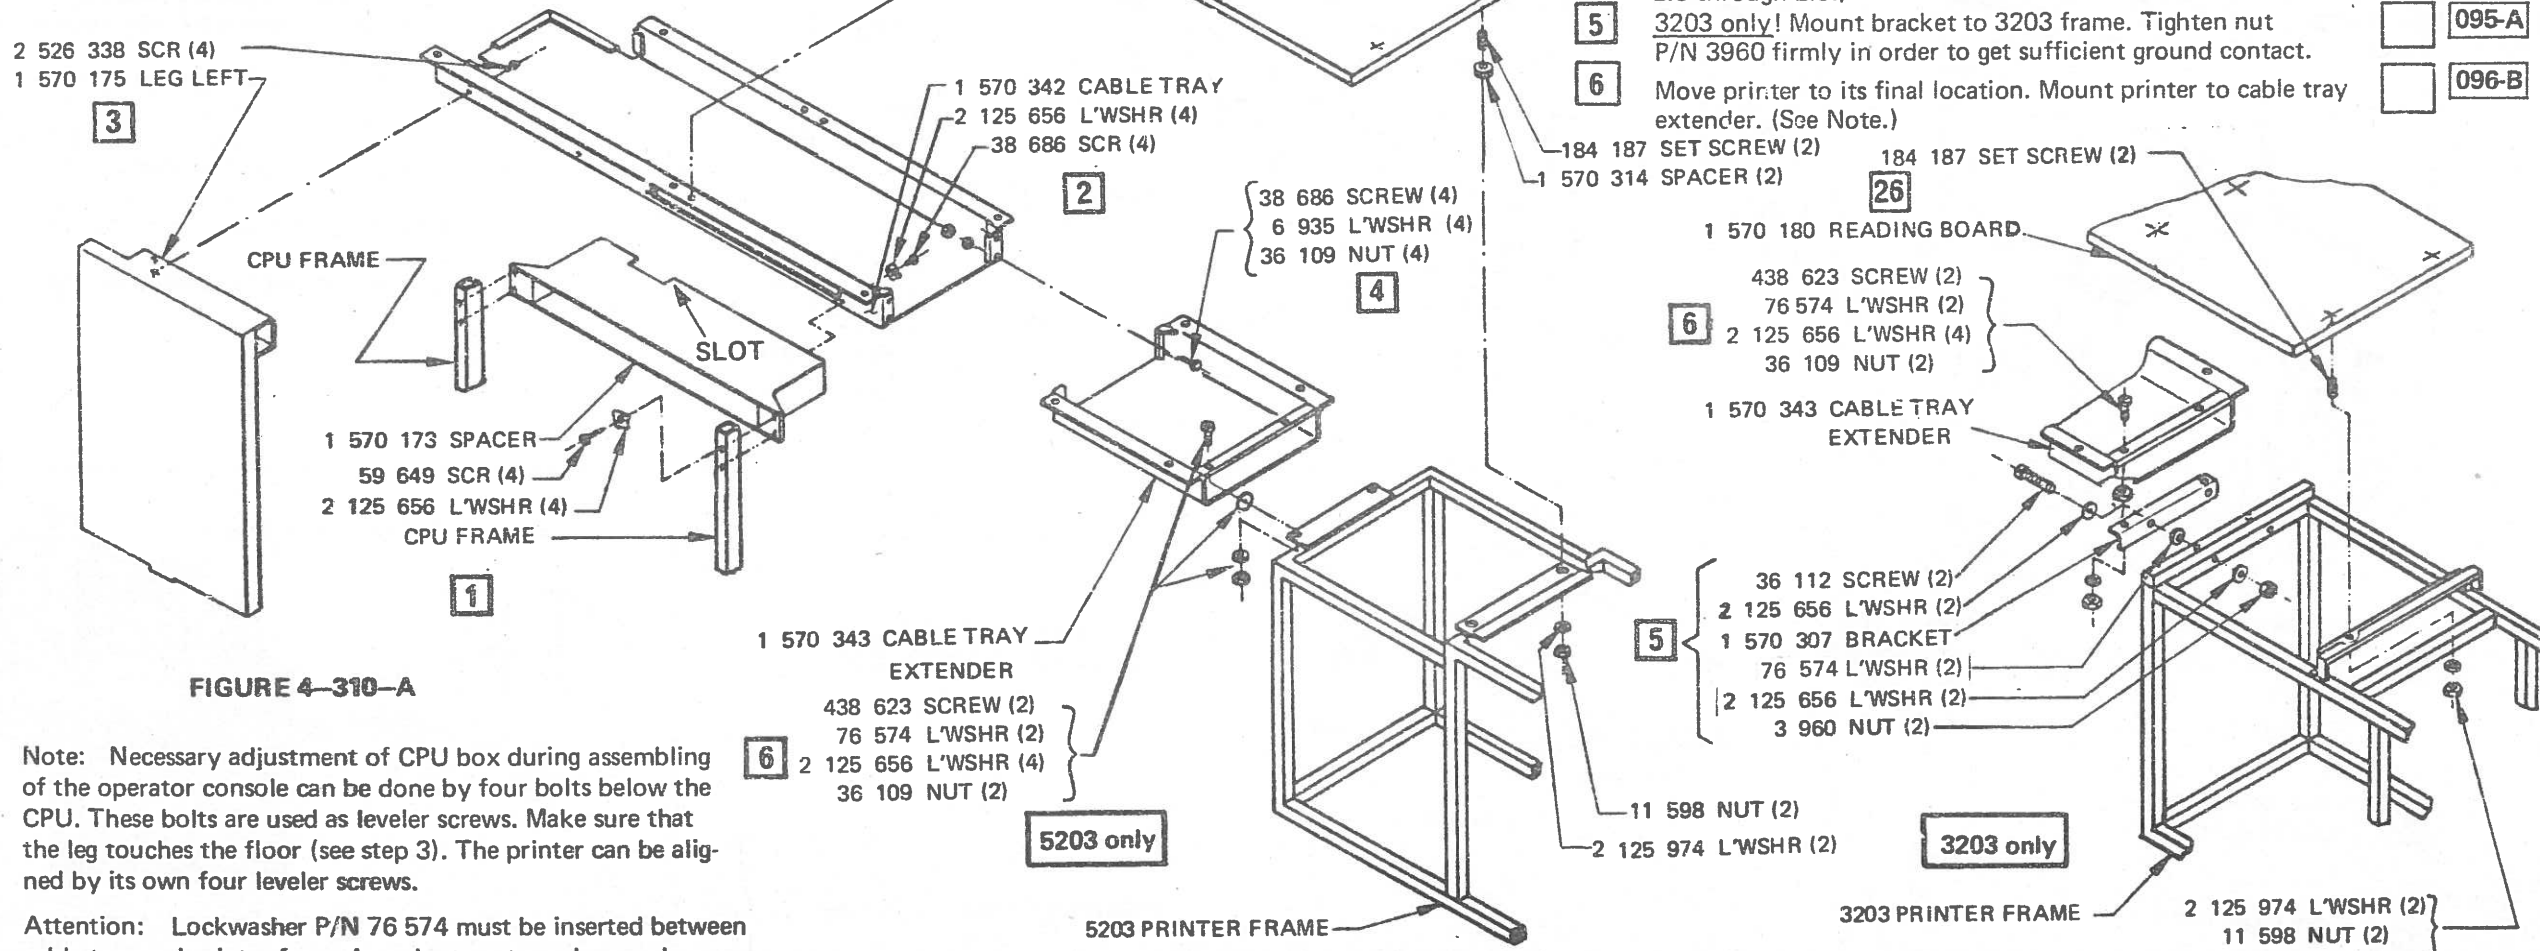

FIGURE 4-310-A
- 1** Attach spacer to CPU frame with four screws, but do not tighten the screws. The screws should be tightened finally after the left leg is attached. ATTENTION: The slot must be in the correct position (see Fig. 4-310-A).